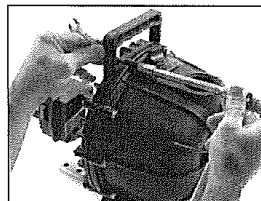

Fig. 1
1. Remove the 10 bolts and nuts (Ref. Nos. 3, 18, 19) holding the pump casing to the casing cover using a 10mm socket and a 10mm open end wrench. Tap pump casing on the discharge port with a rubber hammer, if necessary, to break it loose from the casing cover. Remove o-ring from casing cover. Inspect parts for wear. (See Fig. 1.)
7. Install the pump casing onto the casing cover and o-ring, and secure with the 10 bolts, nuts and washers, using a 10mm socket and wrench. Torque the bolts to 45-inch pounds. (See Fig. 1.)